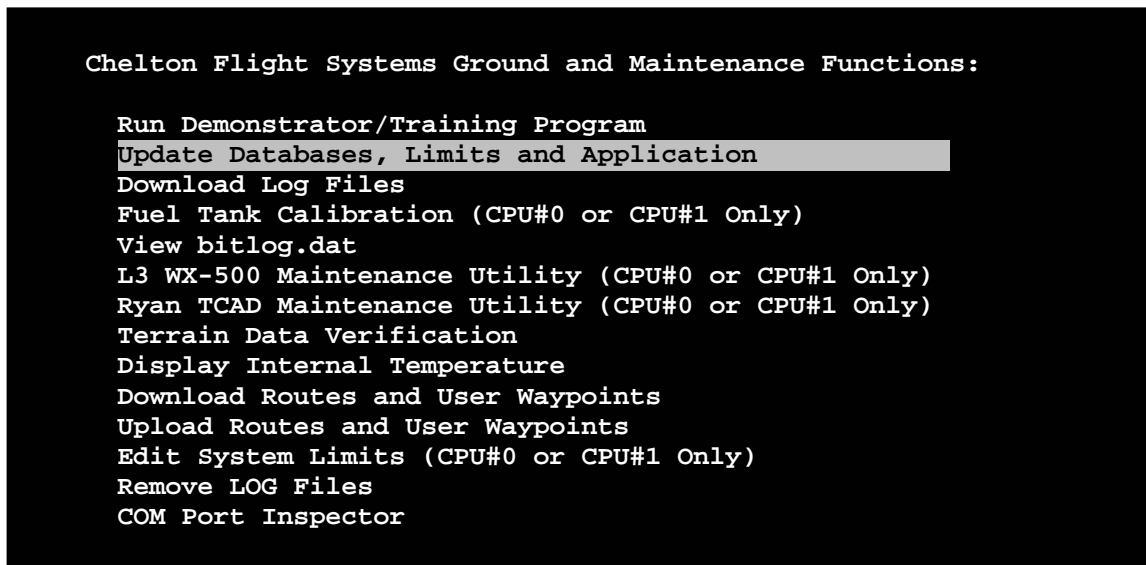

Figure 1 Ground Maintenance Menu
5. Verify the PFD or single IDU displays the Ground Maintenance menu (see Figure 1).